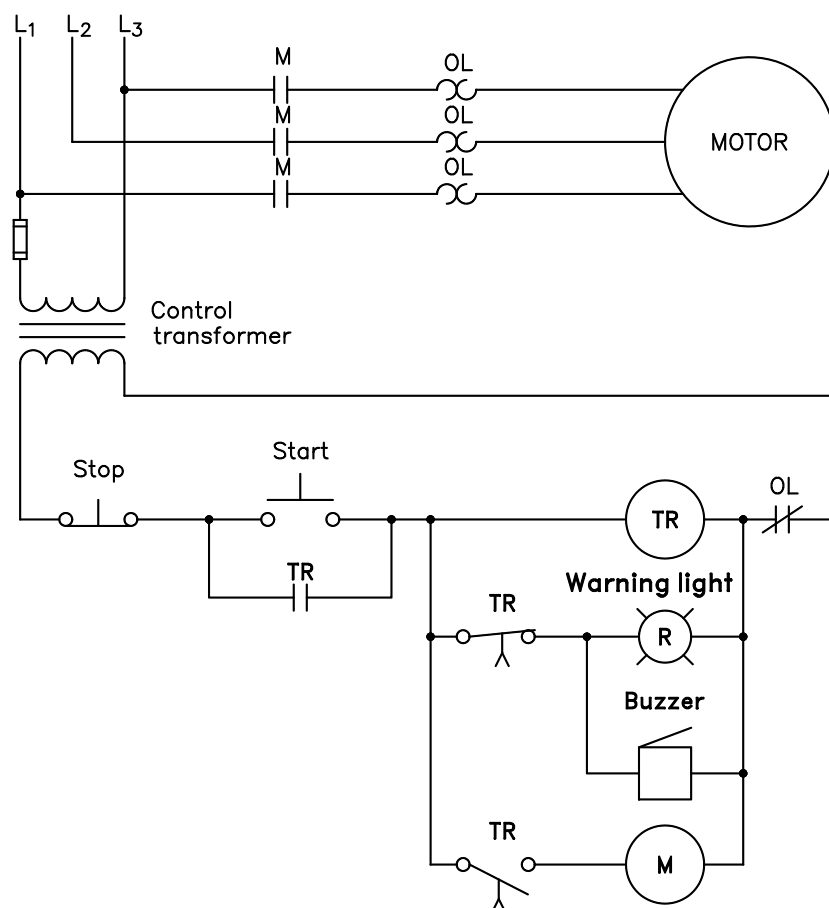

Figure 34-3 The complete circuit.
Now that the logic of the control circuit has been completed, the motor load can be added as shown in Figure 34-3.
The completed circuit shown in Figure 34-3 assumes the use of a timer that contains both timed and instantaneous contacts. This contact arrangement is common for certain types of timers such as pneumatic and some clock timers, but most electronic timers do not
3. Refer to the circuit shown in Figure 34-3. Assume that the on-delay timer is replaced with an off-delay timer. Describe the action of the circuit when the start button is pressed.